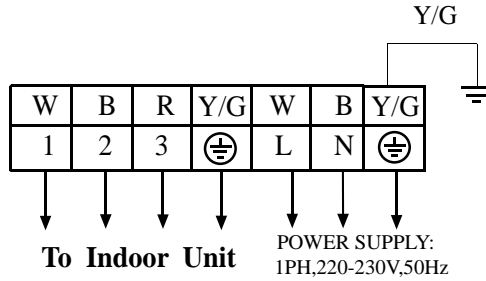
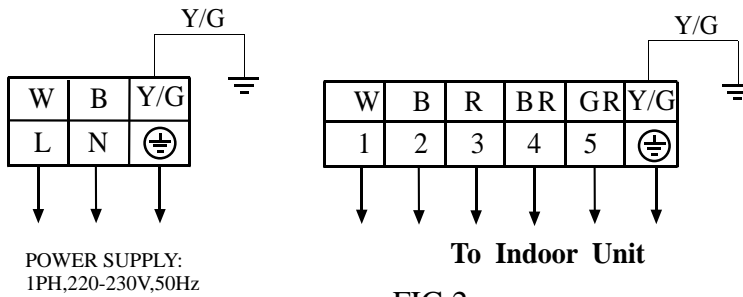
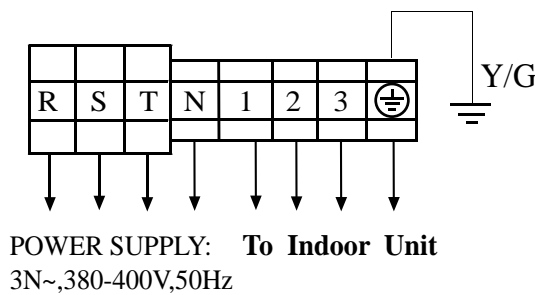
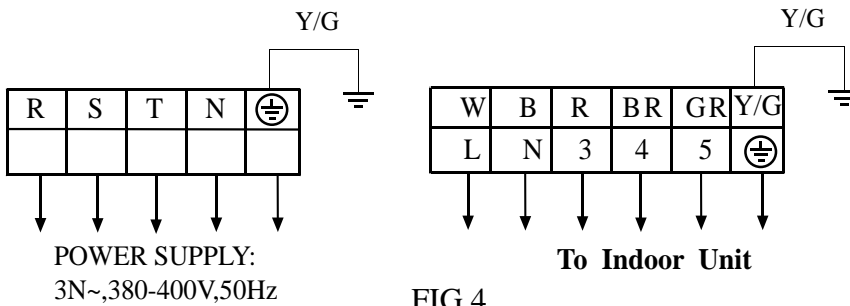

FIG.1
FIG.2
FIG.3
FIG.4
DO NOT CONNECT THE NEUTRAL WIRE (N) TO (R) , (S) OR (T) PHASE. INTERCONNECTING WIRES MUST BE WIRED ACCORDING TO FIG.1 FIG.2 FIG.3.FIG.4.INCORRECT WIRING CAUSE EQUIPMENT DAMAGE.
(3) Wiring procedure